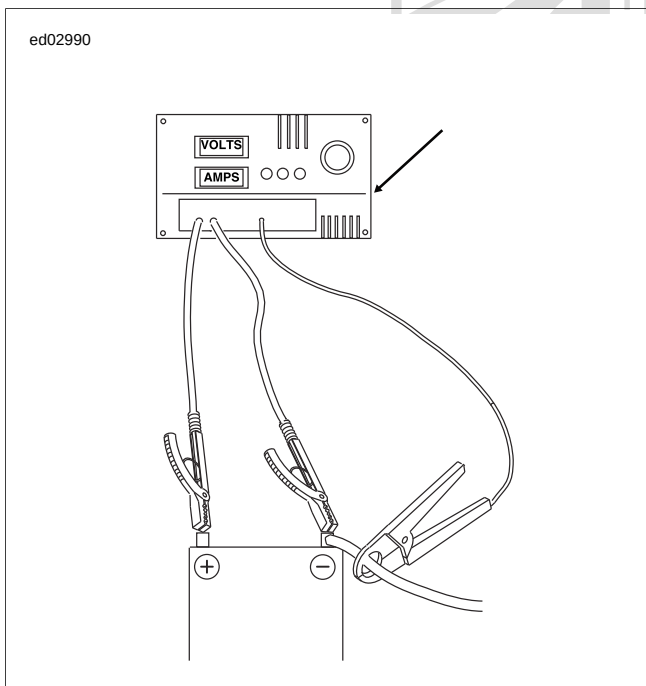

Figure 1-14. Check Current Draw (Ignition Switch On)
1. See Figure 1-14. To check for this condition, place load tester induction pickup over battery negative cable.
1. See Figure 1-14. Connect load tester.
4. See Figure 1-14. After removing the load, read the load tester voltage meter.